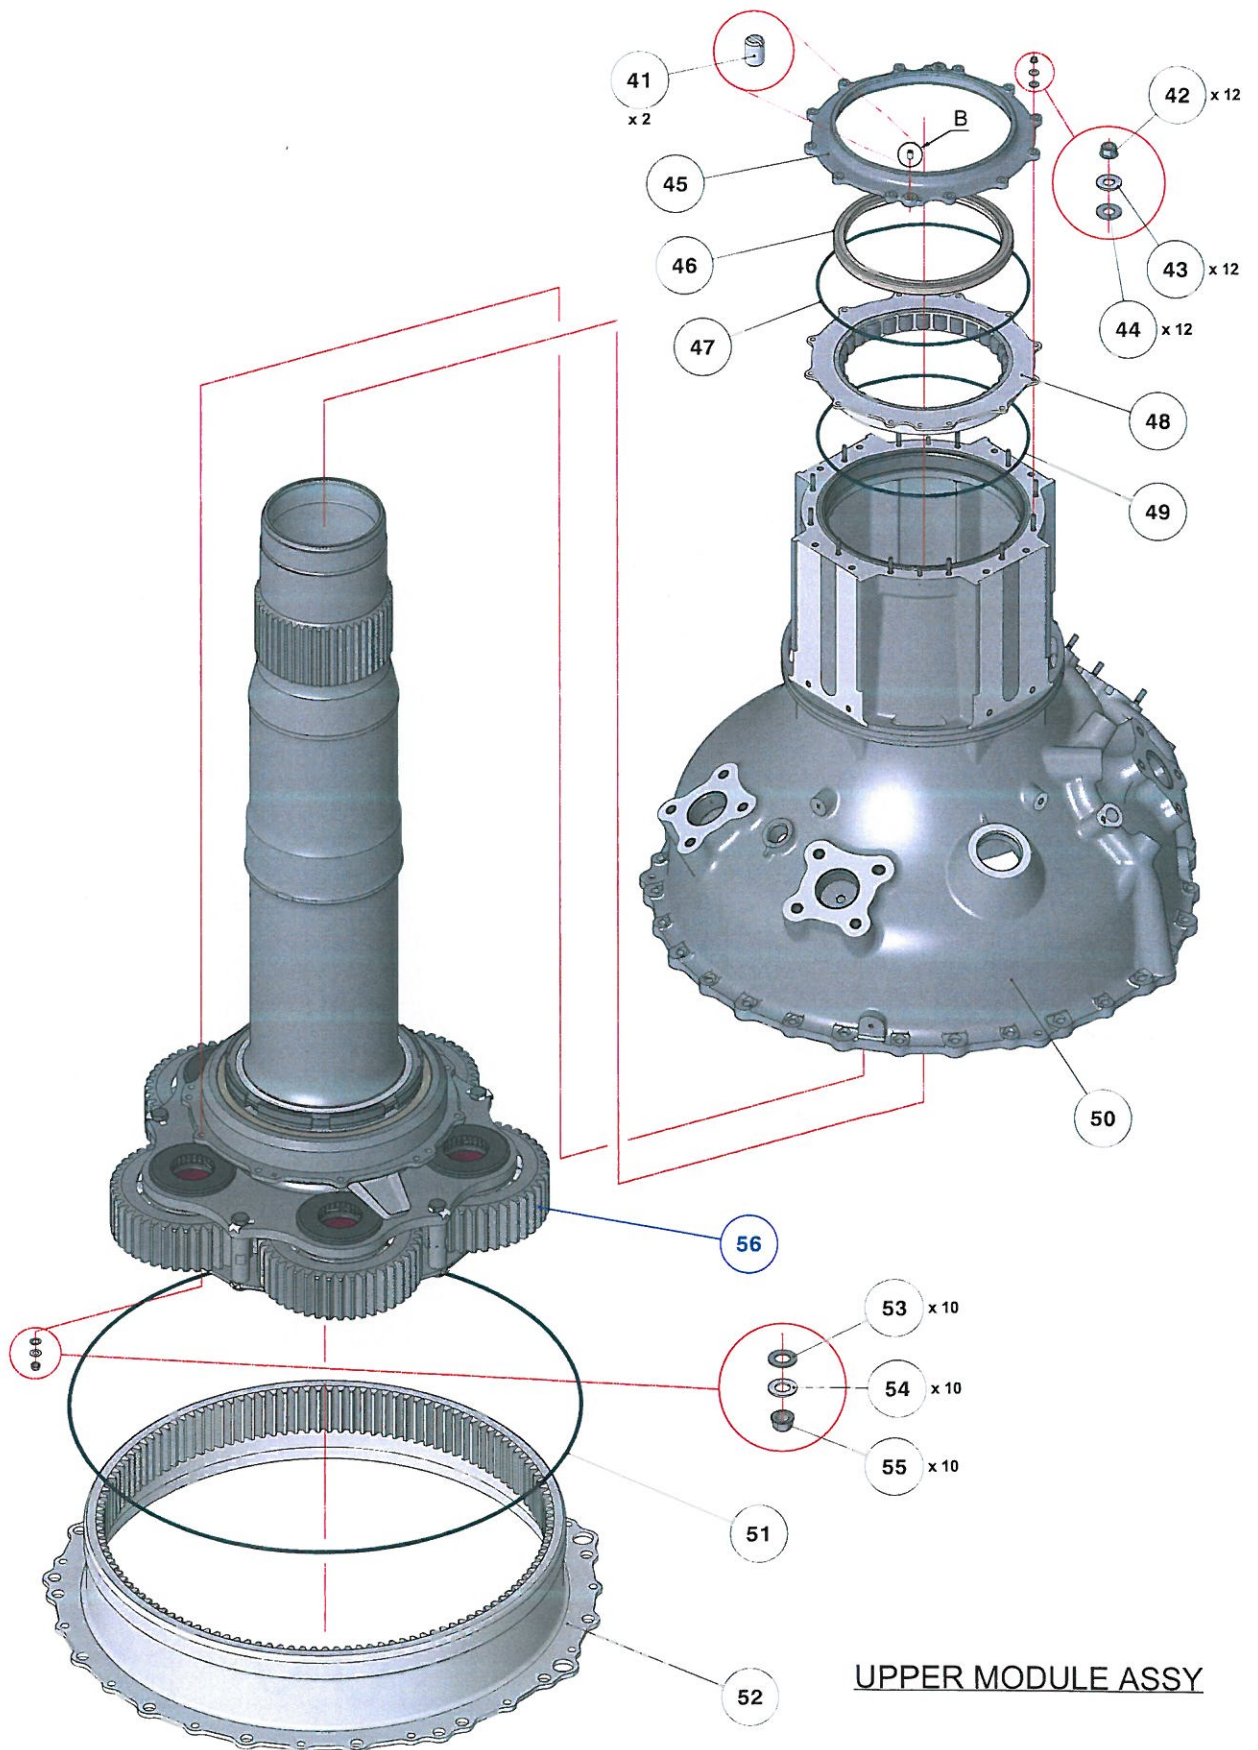

**Figure A2**
18. With reference to Figure A2, install the upper module assembly as described in the following procedure:
- 18.9 With reference to Figure A2, install the six brackets (18) and the brackets (19) and (20), using nuts (15) and washers (16), (17), according to details A, B, C and D. Torque the nuts to 24.5÷25.5Nm (217 thru 226 lbf in) gradually and in a cross sequence.
- 18.10 With reference to Figure A2, install the nylon screws (26) with an over-torque of  $60^\circ \div 120^\circ$ .
23. With reference to Figure A2 detail G, lubricate with Parker "Super O-Lube" the packing (28) and put it on the plug (27). Apply a small quantity of grease MIL-PRF-81322 on the plug (27).
24. With reference to Figure A2 detail G, install the packing (28) and the plug (27). Torque the plug (27) to 4.4 thru 4.8 Nm. Safety the plug (27) to the main case assembly with the lock wire.